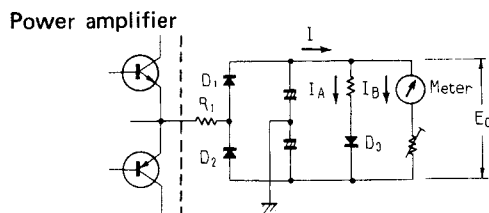

Fig. 3 Meter drive circuit
The output signal of the power amplifier is passed through R_1 and full-wave rectified by D_1 and D_2 to a DC voltage (E_o) corresponding to the signal level (Fig. 3). When the output signal of the power amplifier is small, and $E_o \leq V_F$ (D_3 forward voltage $\approx 0.6V$), the forward resistance of D_3 becomes high and current (I) becomes $I \approx I_B$. When the output signal of the power amplifier is large, and $E_o > V_F$, the forward resistance of D_3 becomes low, and current (I) becomes $I = I_A + I_B$.